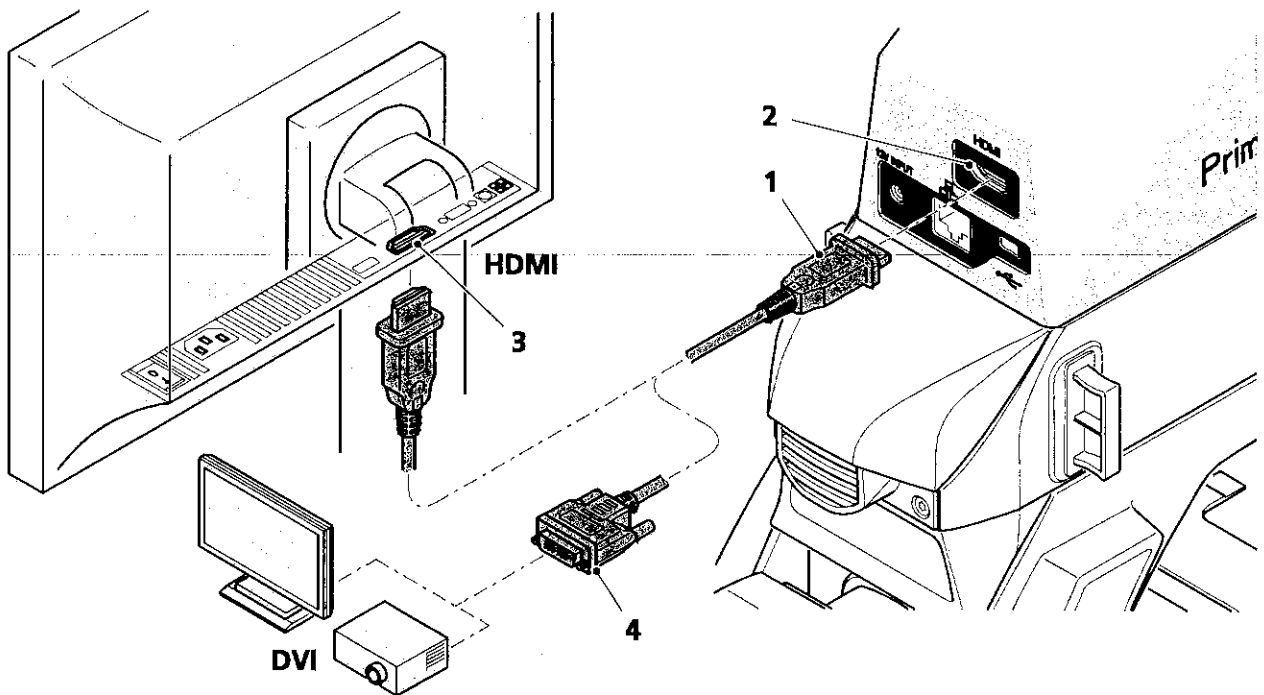

Fig. 8 Connecting the binocular tube 30°/20 to a monitor / projector
- Connect the monitor / projector to the binocular tube 30°/20 using the HDMI cable. To do this, insert the HDMI plug (Fig. 8/1) into the jack on the reverse side of the binocular tube 30°/20 (Fig. 8/2) and the monitor / projector (Fig. 8/3). Secure the HDMI plug on the jack on the monitor / projector.
- ☞ If a monitor / projector is used, an HDMI / DVI adapter cable (Fig. 8/4) or HDMI / DVI adapter will be required for the reproduction of image data.